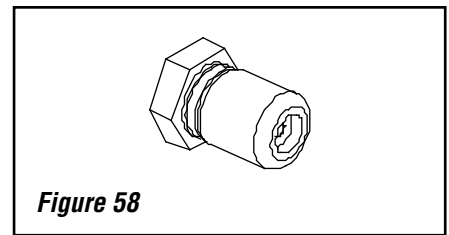

Figure 58
Step 12. (Refer to **Figure 55 on Page 32 and Figure 58**)
A. Remove the orifice from the manifold and replace it with the one provided in the kit. See the **Table 11** for orifice sizes for natural and propane models. **Figure 58** illustrates the orifice. Use pipe joint compound or Teflon tape on all pipe fittings before installing (ensure propane resistant compounds are used in propane applications, do not use pipe joint compounds on flare fittings).